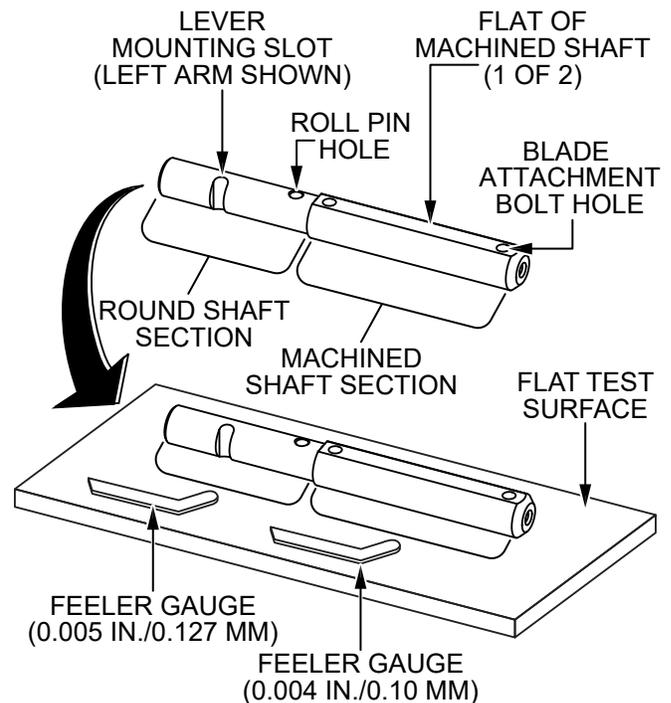

Figure 48. Checking Trowel Arm Straightness
1. Place the trowel arm onto a thick steel plate, granite slab, or any other surface which is flat and true (Figure 48).
2. Check each flat (2 total) of the machined shaft section of the trowel arm (Figure 48). A feeler gauge of .004 in. (0.10 mm) should not pass between the flat of the trowel arm and the test surface along its length on the test surface.
3. Check the clearance between the round shaft and the test surface as one of the flat sections of the arm rests on the test surface (Figure 48). Rotate the arm to each of the flat sections and check the clearance of the round shaft. Use a feeler gauge of .005 in. (0.127 mm). Each section should have the same clearance between the round of the trowel arm shaft and the test surface.